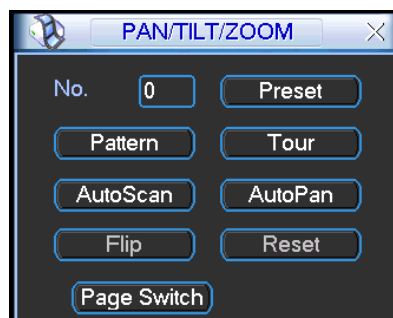

Figure 4-38
In Figure 4-34, click page switch button, the interface is shown as in Figure 4-38. Here you can activate the following functions:
- The following setups are usually operated in the Figure 4-34, Figure 4-37 and Figure 4-38 .
In Figure 4-38, please input preset number in the No. blank, and click preset button.
In Figure 4-38, input mode value in the No. blank, and click pattern button.
In Figure 4-38, click "Auto Scan" button, the system begins auto scan. Correspondingly, the auto scan button becomes Stop button. Click stop button to terminate scan operation.
In Figure 4-38, click page switch button, you can see an interface is shown as below. See Figure 4-43. Here you can set auxiliary function. The aux value has relationship with the Aux button of the decoder.